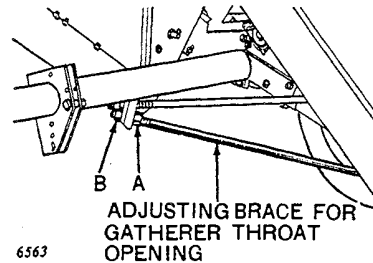

Figure 7
**To Adjust:** (See Figure 7) To enlarge opening loosen lock nut, "A," and thread nut, "B," onto adjustable round brace and off to make opening smaller.